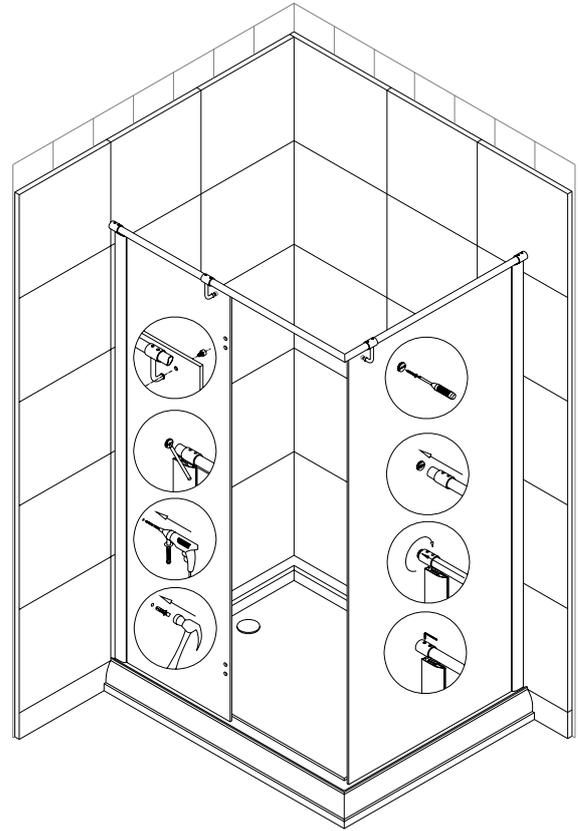

Fig 4
5. Locate the **90 Degree Support Bar (6)**, then locate the two **L-Shaped Glass support brackets (7)**. Face the brackets inward; then slide one L-shaped glass support bracket on each side of the 90 degree support bar, also place the two **Support bar Wall Connecting Brackets (5)** on the ends of the 90 degree support bar. Next take that 90 degree support bar assemble and place it above the glass panels of the shower, when the bar is in place make sure it's level with the glass and the walls; fasten the two L-shaped glass support brackets to keep the bar steady. Then simply make a mark on the wall at each end of the 90 degree support bracket. Make sure the mark is clear and visible and at the exact location as the support bar wall connecting brackets; then unscrew the L-shaped glass support bracket and take the 90 degree support bar assembly off. Drill the holes and install wall anchors in the marks that you created. Tightly install the Support Bar Wall Connecting Brackets in the wall. Get the 90 degree support bar and install it into the support bar wall connecting brackets one side at a time, make sure it's a tight fit. Now fasten the L-shaped glass support brackets to the narrow stationary glass and the wide stationary glass. (fig 4)